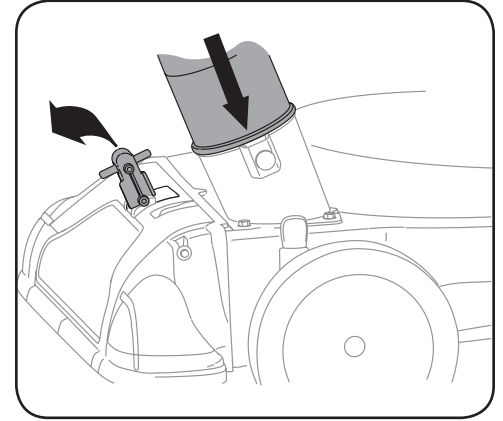

Figure 4-5
1. Place nozzle/hose vac lever in the bottom position on the nozzle to redirect vacuum to the hose assembly. See Figure 4-5.
2. The spring loaded pin must be in the second hole of the hose adapter to operate the hose assembly. See Figure 4-5.